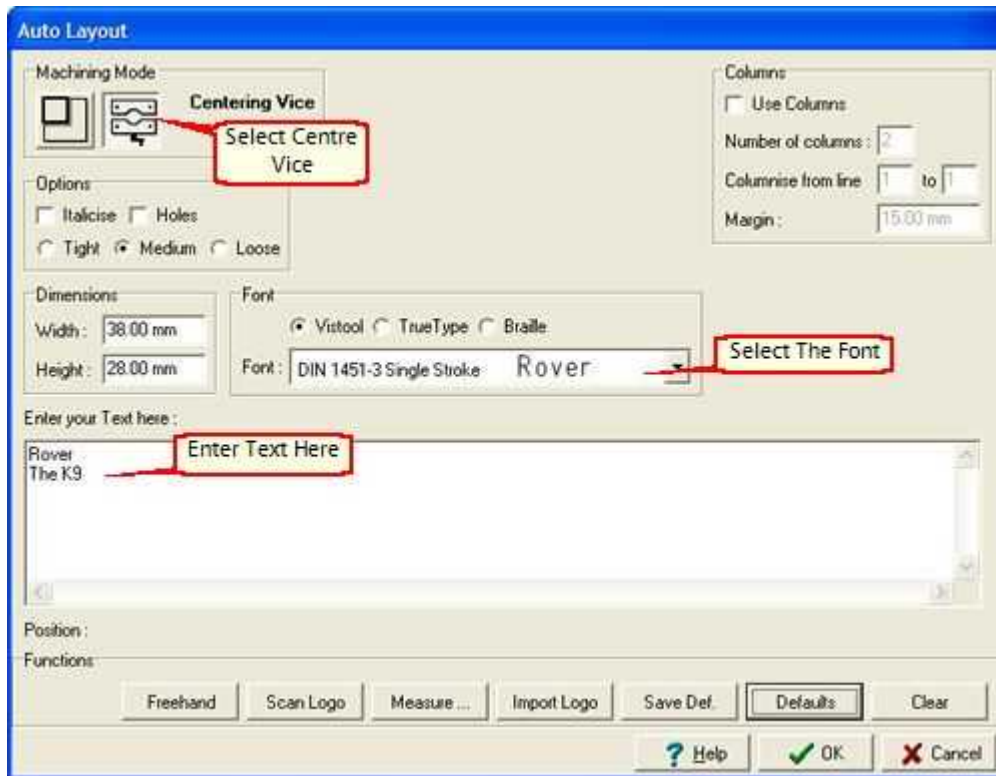

Figure 2
- 5 Now select "AutoLayout" from the menu bar, select "Centre Vice", select your Font, enter your Text and Click On "OK" see Figure 2.